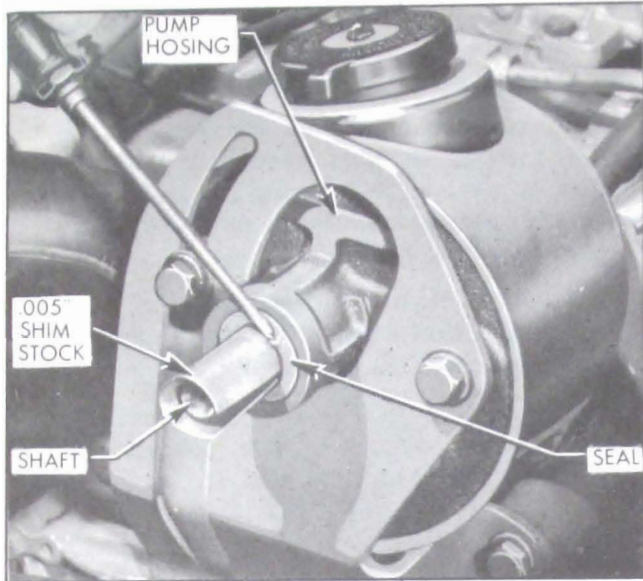

Figure 8-61—Removing Oil Pump Shaft Seal
6. Insert a piece of .005" shim stock (approximately 2-1/2" long) around shaft and push it past seal until it bottoms in pump housing. See Figure 8-61.
7. Remove seal by cutting metal body of seal with a sharp tool and prying out. See Figure 8-61. Extreme care must be used to prevent damage to shaft and pump housing.